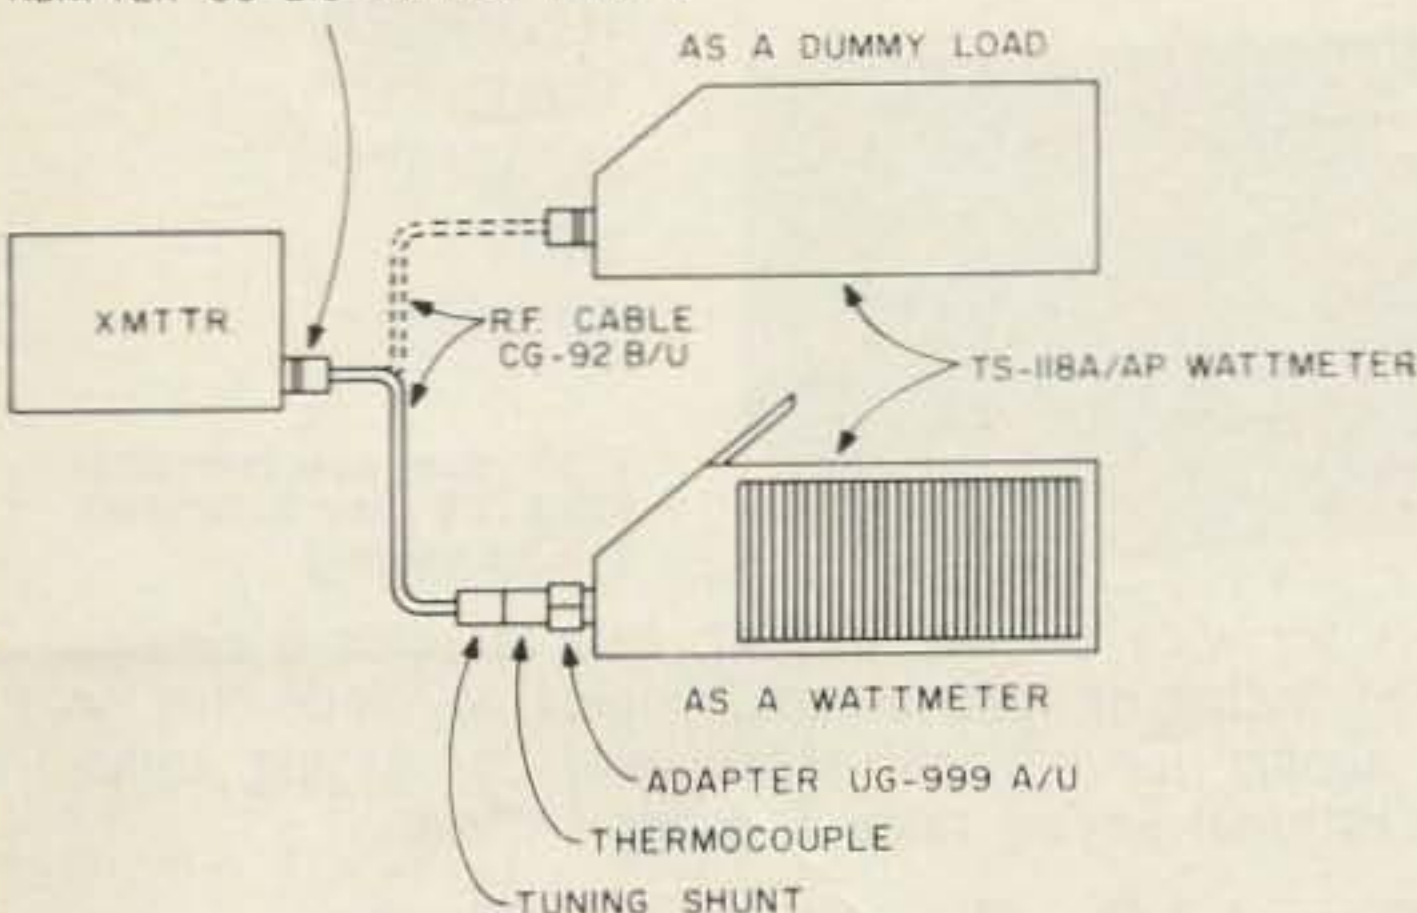

FIGURE 1
5. If the transmitter output is terminated with a UHF or N type receptacle, connect the wattmeter as shown in Fig. 1.
If the TS-118A/AP is to be used only as a dummy load, connect it to the transmitter as shown in Fig. 1. It can be used as a dummy load in a 50-ohm coaxial line in the 20 to 1400 mc frequency range. However, it can also serve as a dummy load on frequencies below 20 mc by disconnecting meter M201 at jack J202. This will prevent the high vswr from damaging the meter.